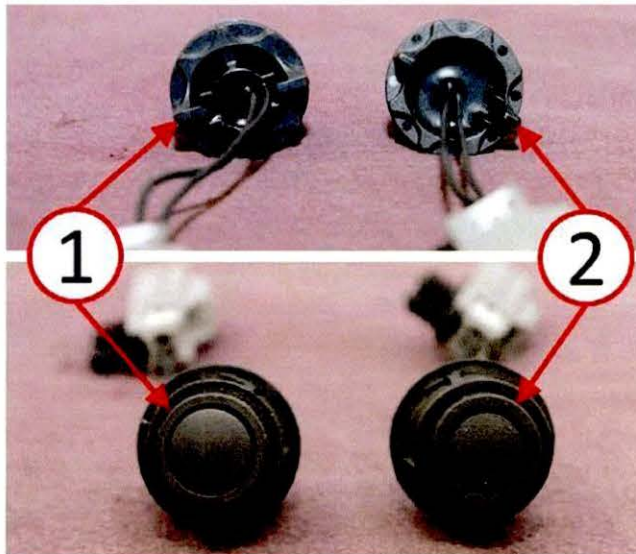

**Fig. 3 Passive Entry Switch Removal**
4. Remove the passive entry switch from the CHMSL housing. Refer to the detailed removal procedures available in DealerCONNECT>TechCONNECT> under: Service Info> 08 - Electrical> 8N - Power Systems> Power Locks> SWITCH, Deck Lid Release> Removal (Fig. 3).